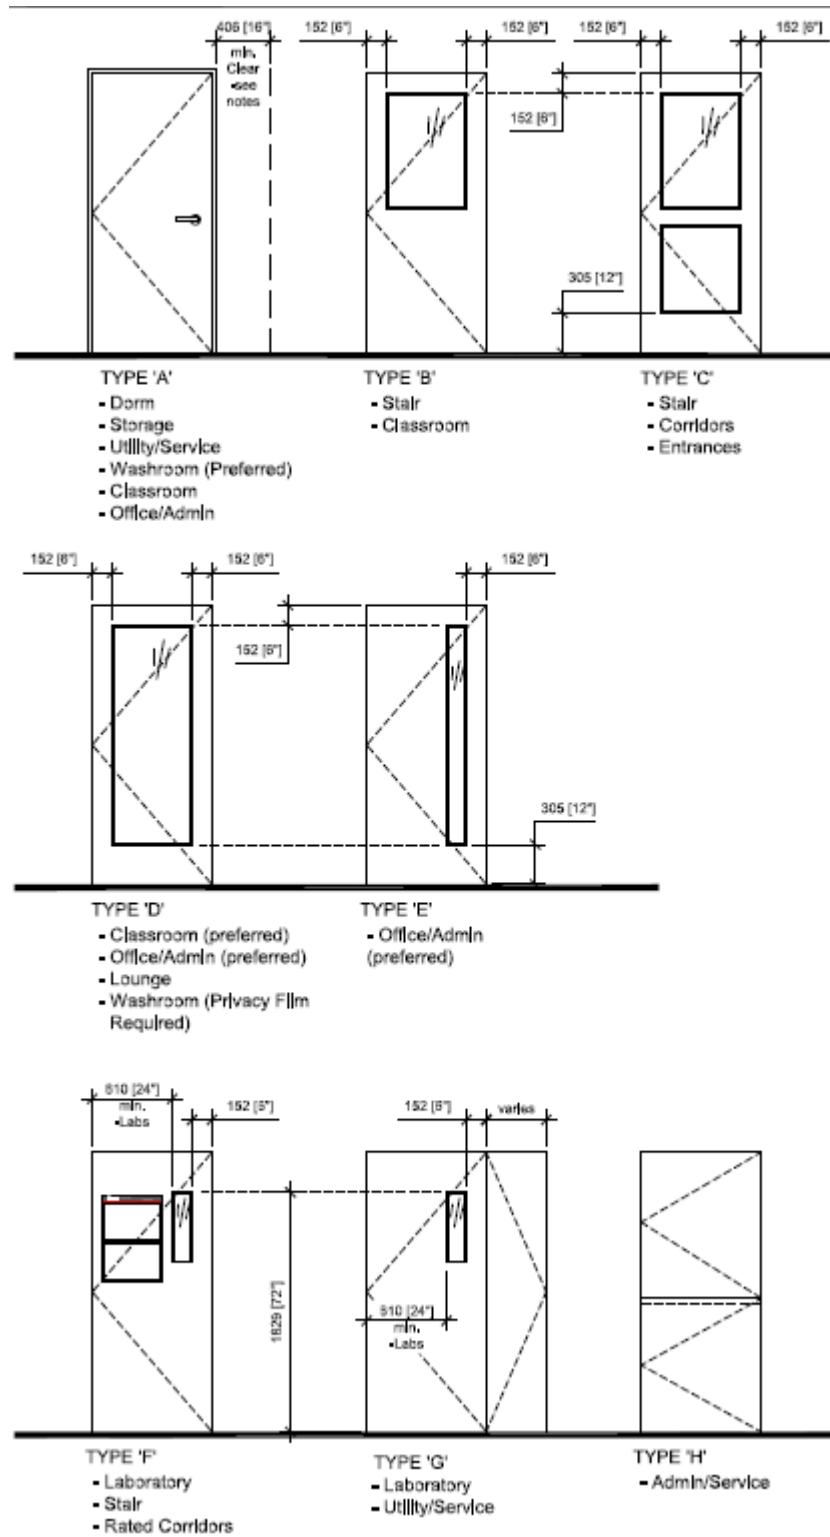

Figure 08 10 01.2
9. An uninterrupted length of wall or glazing not less than 406mm [16"] shall be provided on the exterior latch side of the door to accommodate signage. The space shall be provided adjacent to both exteriors and interiors of spaces beside doors in stairwells or any other space where signage is specified beside doors on the interior wall. See Figure 08 10 01.1.
3. Figure 08 10 01.1
12. See Figure 08 10 01.2 for UVic's preferred door types